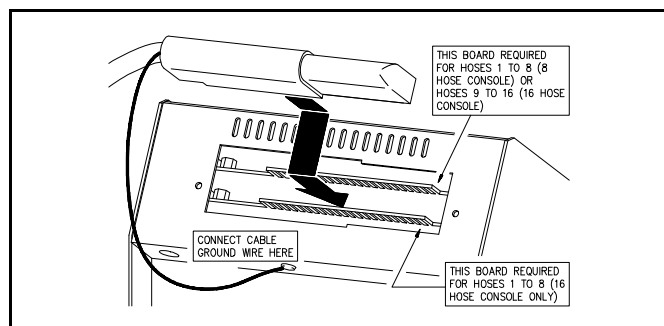

Figure 14
- a. Install the connector end of the data cable to the back of the console. Use screws provided to connect the cable ground wire to the ground screw. See Figure 14.